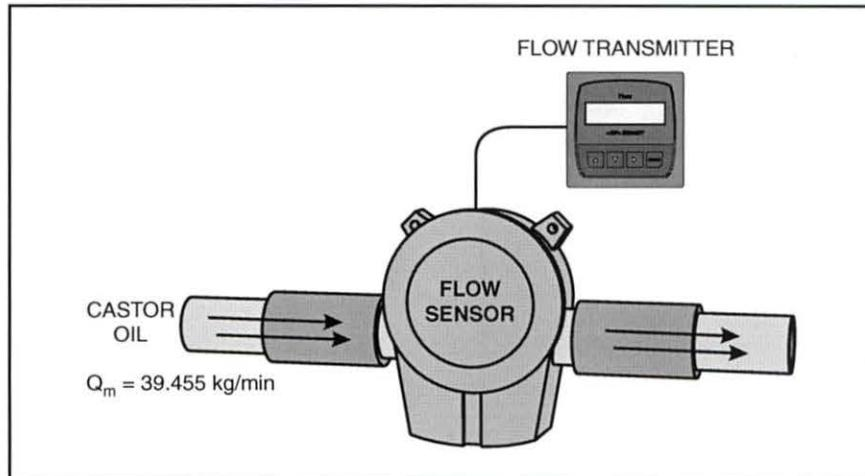

Figure 14. Mass Flow through a Pipe
5. Calculate the volumetric flow rate of castor oil in the pipe shown in figure 14. The mass flow rate is 39.455 kg/min.